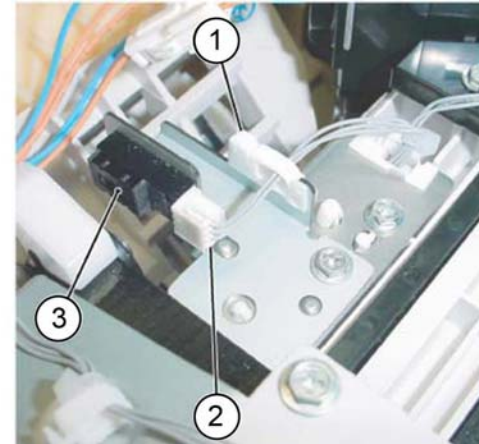

Figure 3 Eject home sensor removal
8. Remove the eject home sensor, **Figure 3**:
- a. Release the harness from the clamp (1).
- b. Disconnect the connector (2).
- c. Remove the eject home sensor (3) from the bracket.